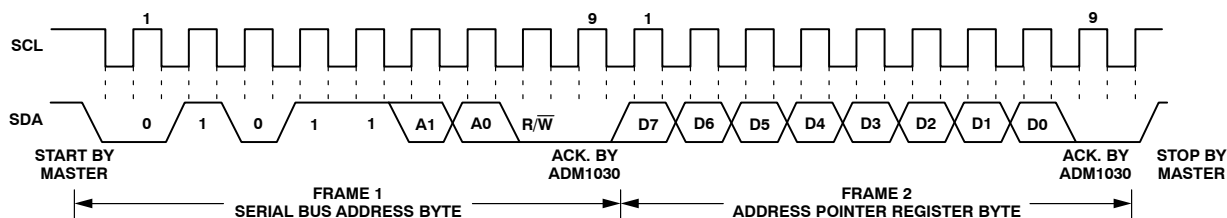
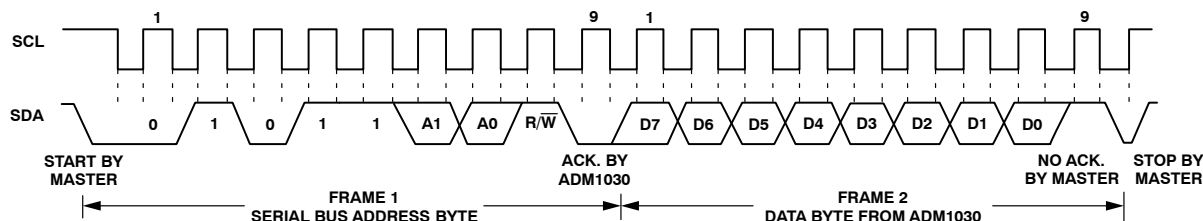

Figure 16. Writing to the Address Pointer Register Only
Figure 17. Reading Data from a Previously Selected Register
1. If the ADM1030's Address Pointer Register value is unknown or not the desired value, it is first necessary to set it to the correct value before data can be read from the desired data register. This is done by performing a write to the ADM1030 as before, but only the data byte containing the register address is sent, as data is not to be written to the register. This is shown in Figure 16. A read operation is then performed consisting of the serial bus address, R/W bit set to 1, followed by the data byte read from the data register. This is shown in Figure 17.
2. If the Address Pointer Register is known to be already at the desired address, data can be read from the corresponding data register without first writing to the Address Pointer Register, so Figure 16 can be omitted.